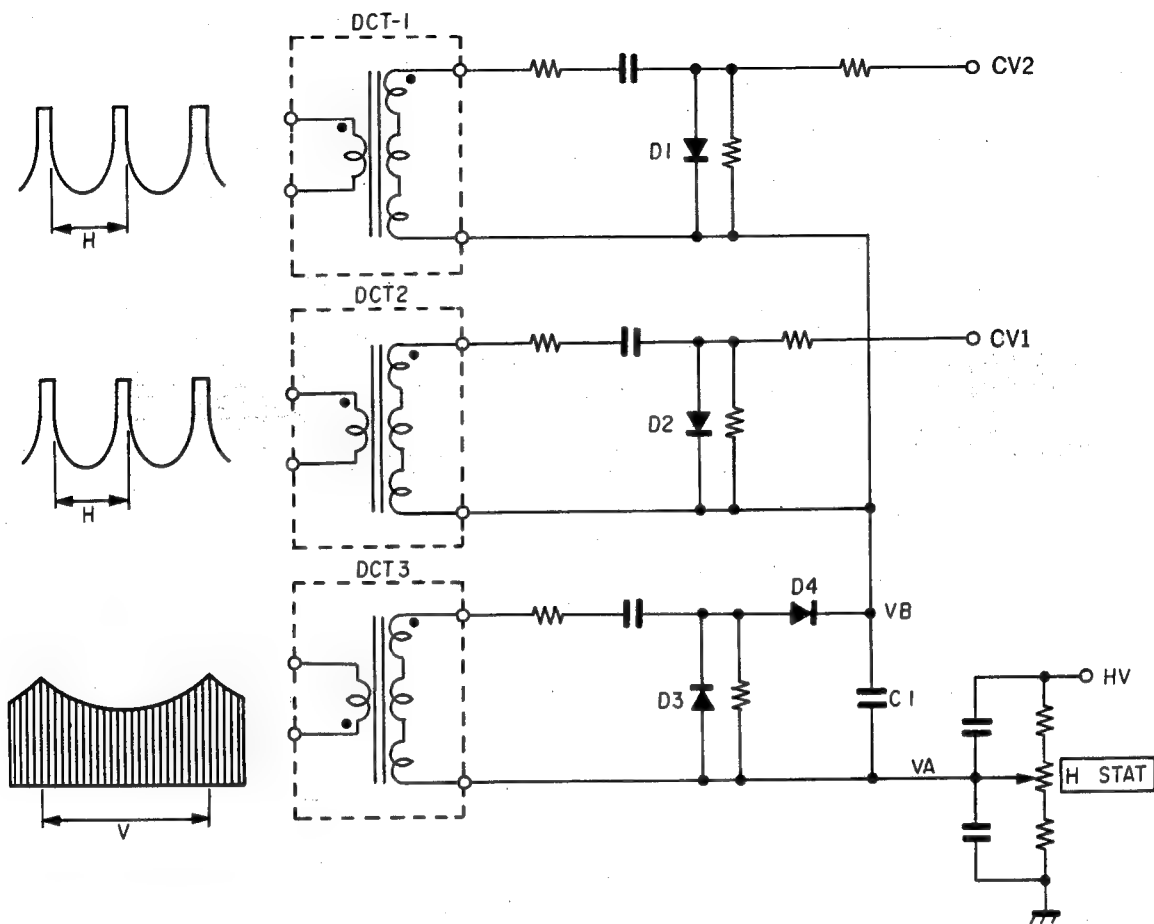
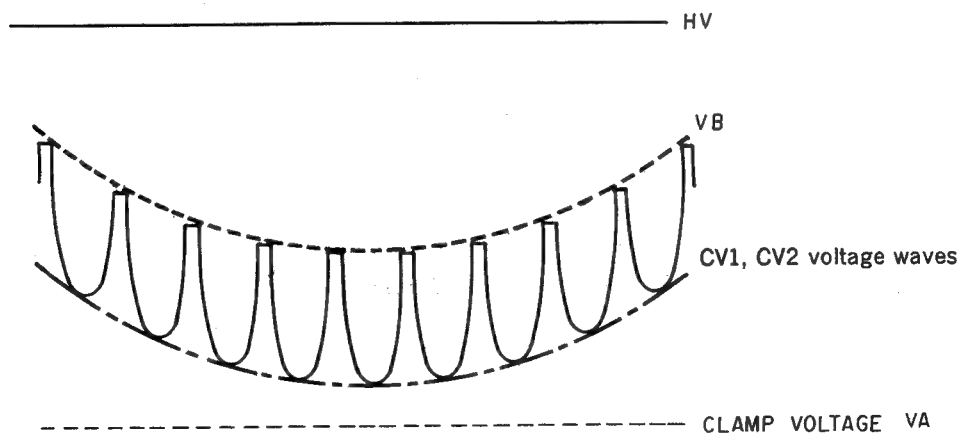

Fig. 24. DCT Block
Fig. 25. CV1 and CV2 Voltage Waves
The principles of DCT block operation are shown in Fig. 24. The DCT block contains detection resistors for HV regulator feedback, high voltage resistors for obtaining H.STAT voltage, DCT1, 2, and 3 for convergence correction, a clamping circuit, and a detection circuit.
The H.STAT voltage (VA) is overlapped with the correction voltages obtained from DCT1, DCT2, and DCT3, and supplied to the convergence plates (CVP-1 and CVP-2). Correction of both static and dynamic misconvergence in the horizontal direction is possible even if it is asymmetrical. The pulse modulated by the parabolic voltage of the vertical period, shown in Fig. 24., is input to DCT3. As the CV voltage is extremely high, approximately 97% of HV, it is difficult to transmit the correction wave of the vertical period. The horizontal wave is clamped to the vertical period envelope at "VB" and the resulting waveform is shown in Fig. 25.
In DCT3, this correction voltage is boosted four times. The pulse peaks are clamped by diode D3, and the vertical period correction wave is extracted by D4 and C1. The resulting waveform is shown in Fig. 25. As shown in this figure, static misconvergence correction is possible, as changing the overall height of the pulse changes the VB voltage DC level.
As shown in Fig. 24, the horizontal period correction wave with the clamp pulse inserted, is applied to DCT1 and DCT2. It is clamped by diodes D1 and D2 after being amplified approximately 100%, and is overlapped on the VB voltage. CV1 and CV2 are supplied to convergence plates CVP-1 and CVP-2 respectively. CVP-1 is a convergence electrode for correction of blue misconvergence, and CVP-2 is a convergence electrode for correction of red misconvergence. Thus, red and blue horizontal misconvergence can be corrected separately. The correction of blue misconvergence on the Y-axis is possible by changing the clamp pulse height, of the correction wave input to DCT1.